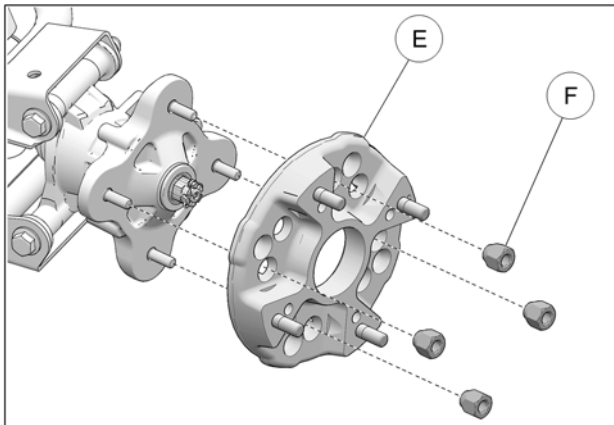

Fig. 19
7. Install wheel spacers (E) on rear hubs. Use provided M12 wheel nuts (F) for spacer installation. Fig. 19